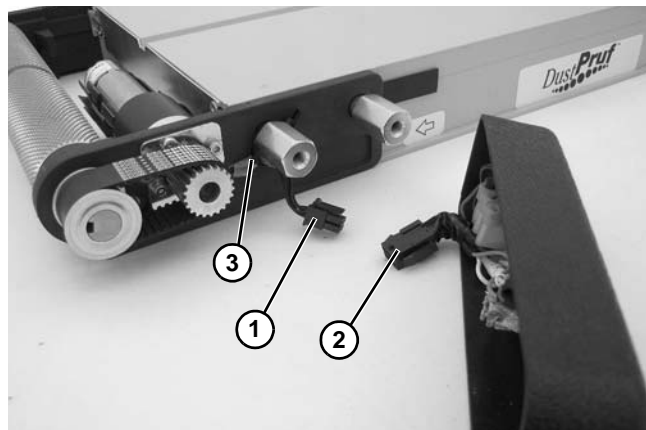

Figure 71
3. Unplug motor connector (**Figure 71, item 1**) from cover wiring connector (**Figure 71, item 2**), and cut cable tie (**Figure 71, item 3**) from conveyor.